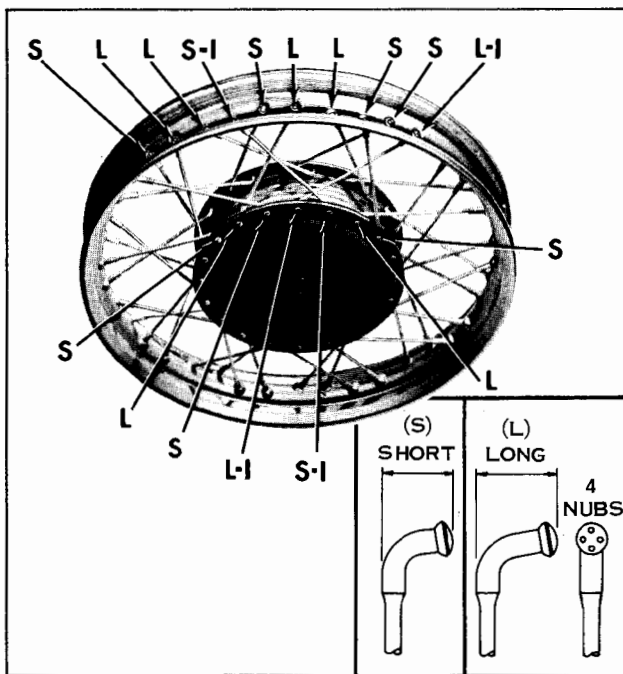

Figure 2-8A. Lacing Front Wheel - Super Glide
FRONT WHEEL (Figure 2-8A)
Note that there are two types of spokes, long and short at bent end as shown in Figure 2-8A. One long and one short spoke are used in each pair. The long spoke (L) of each pair on rim crosses over to opposite side of hub while the short spoke (S) of each pair on rim connects to same side of hub. Spoke arrangement is shown in Figure.